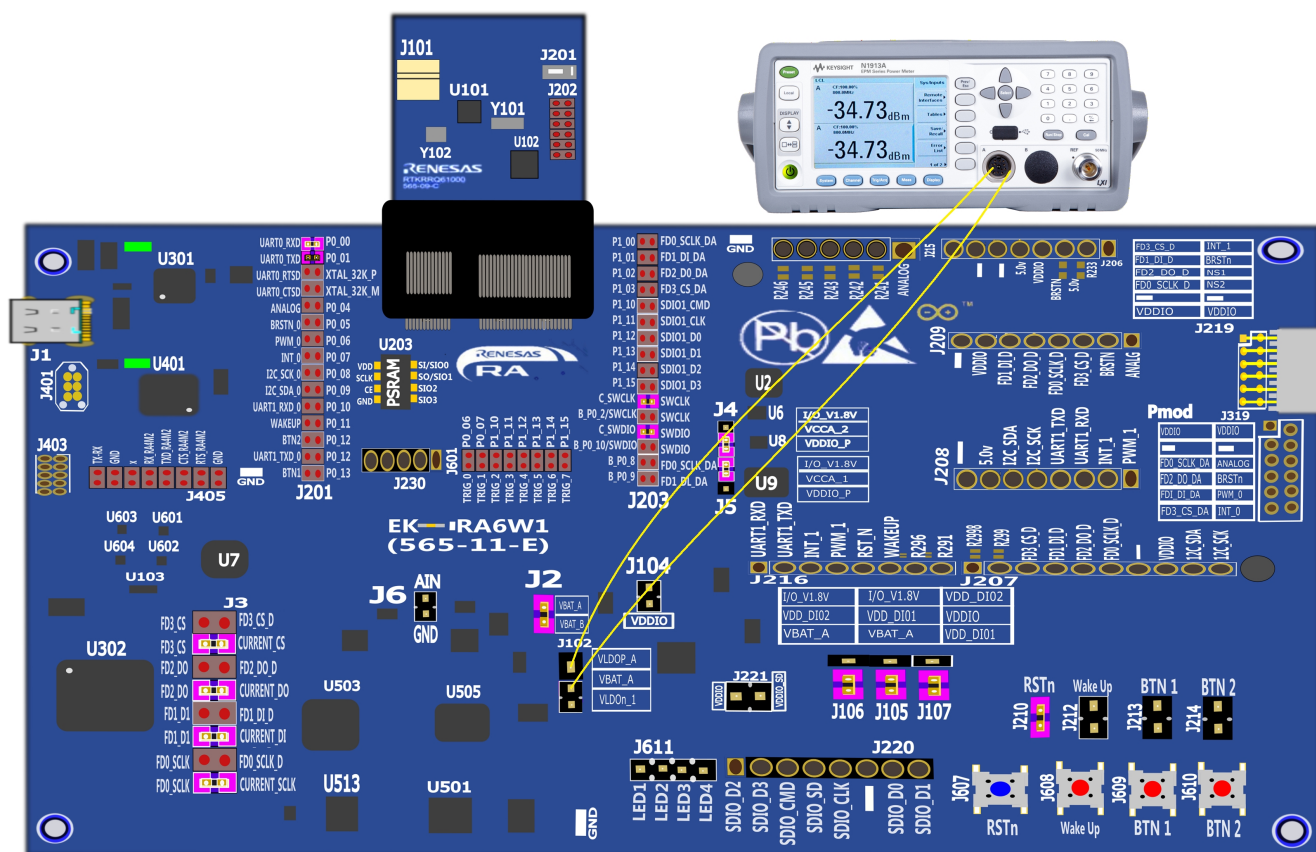

Figure 45. Jumper connections between pins
2. Connect jumpers between the pins and connect the current measurement points to the power analyzer, see Figure 45.